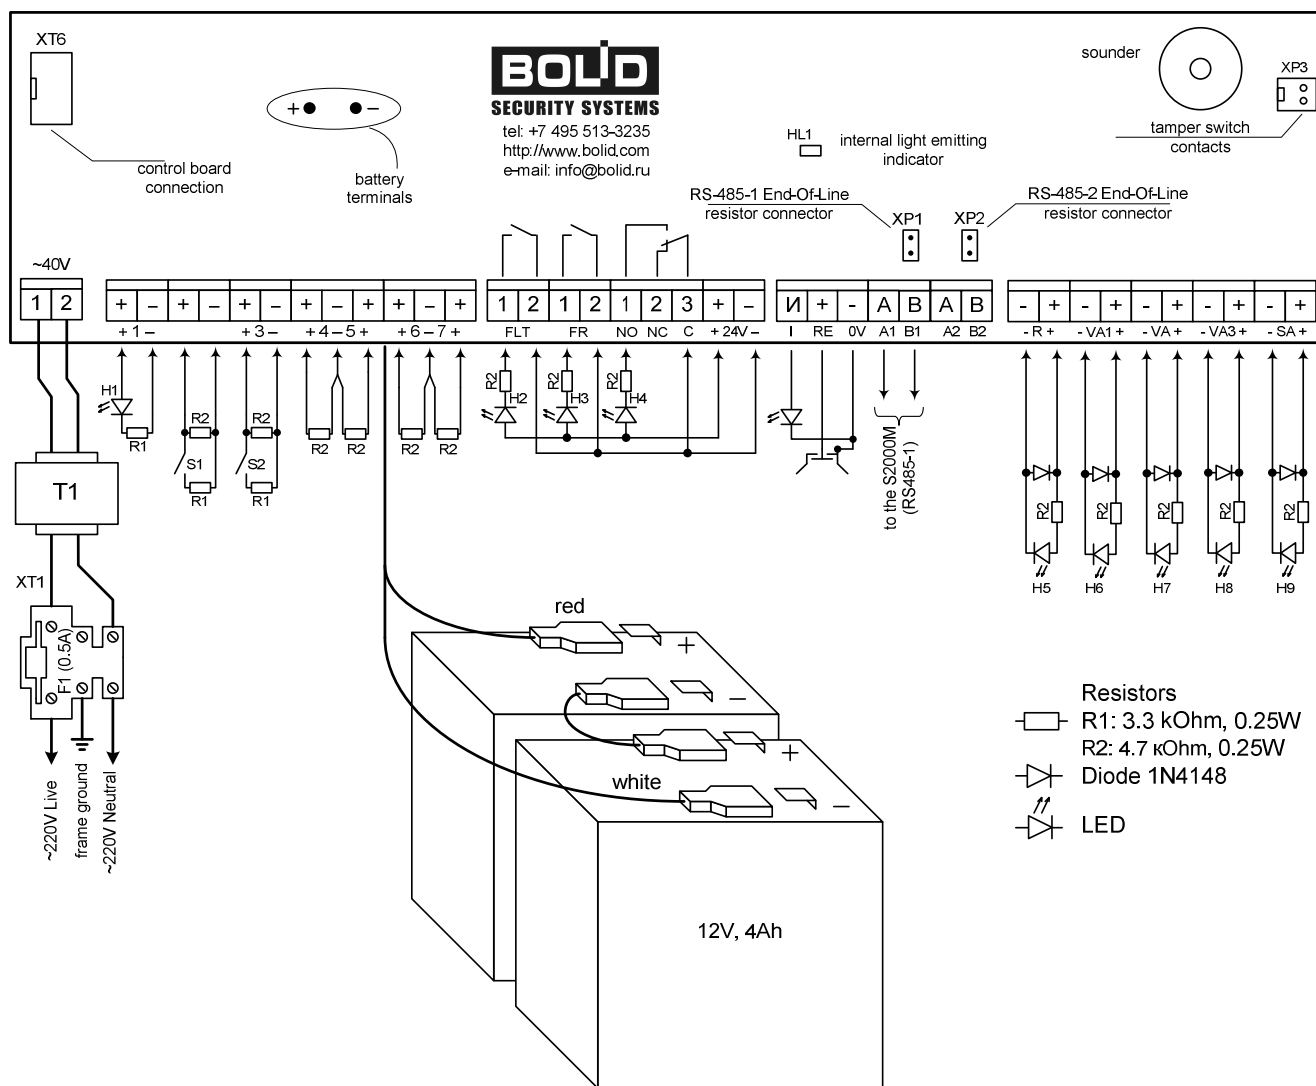

Figure 6-9. Wiring the Panel for Testing
- 1) Establish the test set-up shown in Figure 6-9.
If the AUTOMATIC MODE indicator is turned on, reset it by pressing the relevant button. The H8 indicator (see Figure 6-9) shall start lighting.
- 6) Close the S1 contact (see Figure 6-9). H1 indicator shall have being off for 3 s, the LOOP 2 indicator on the panel front plate shall flash with red color, and the S2000M console shall display “FIRE SIGNAL 127/002”.